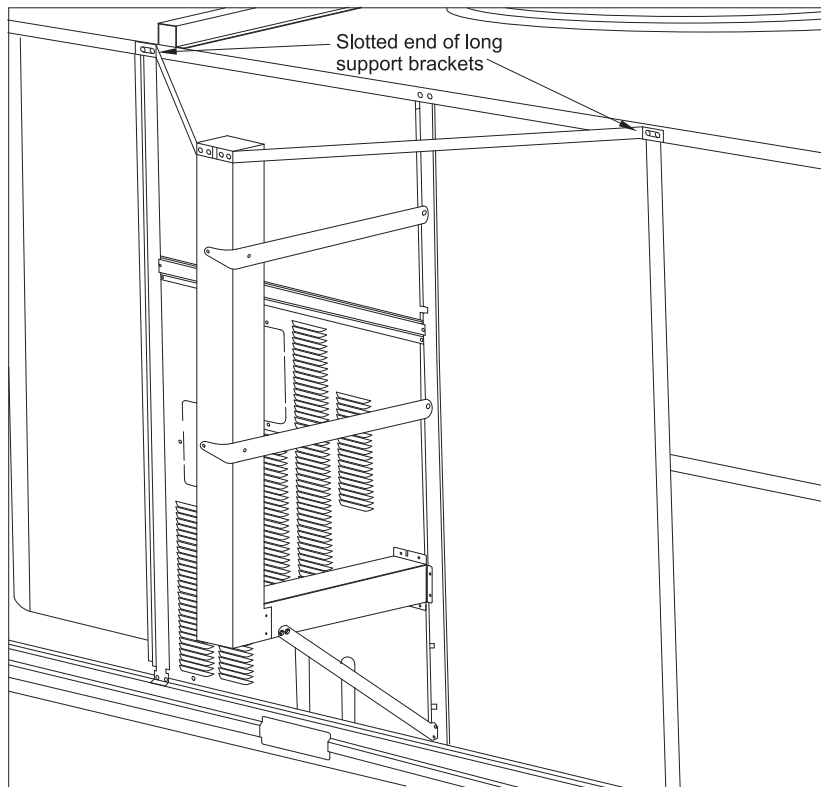

Fig. 4 — Flue Discharge Deflector Kit Completely Installed
14. Attach the other end of the 2 long support brackets to the flue stack using 4 sheet metal screws provided. See Fig. 4.